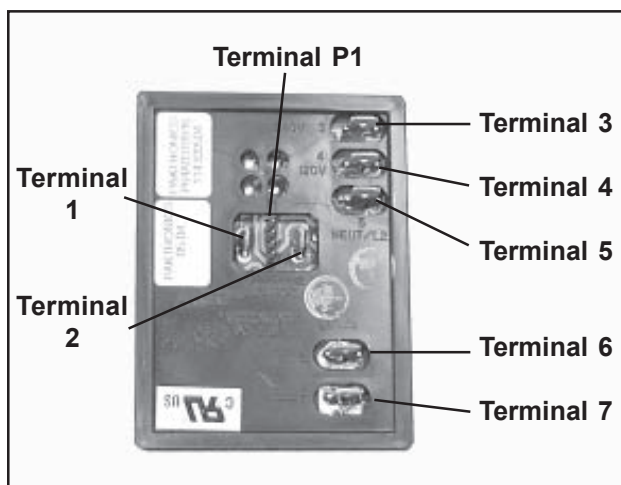

Figure 122. Rear View of Floor Temperature Controller
Note: Refer to Figure 122 and Table 4 for detailed information on the floor temperature controller wire connections.
4. Using tags, masking tape, or any other convenient means, tag all of the wires on the temperature controller with their terminal numbers. Terminal numbers are displayed on the rear of the control (Figure 122). Failure to mark the wires will make it difficult to re- connect them correctly.